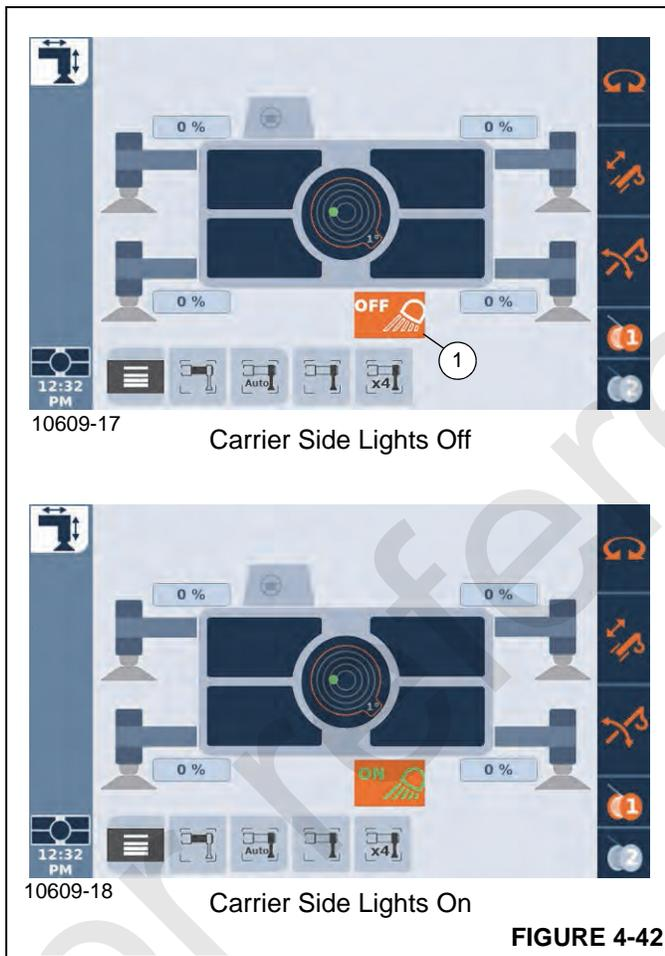

FIGURE 4-42
1. Using the Jog Dial or Arrow Buttons on the Navigation Control Pad, select the Carrier Side Lights On/Off Icon (1, Figure 4-42) (icon background will turn orange when selected).